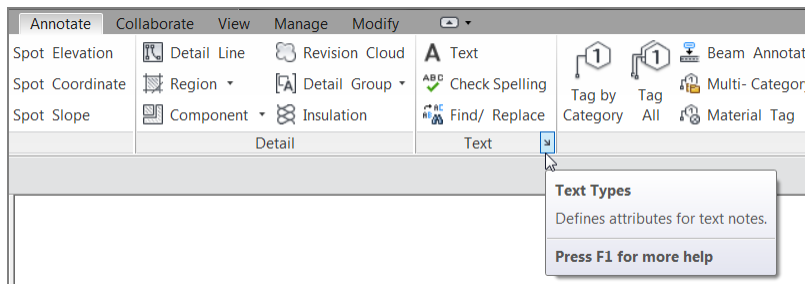

FIGURE 5.51: Accessing the Type Properties
1. On the Text panel of the Annotate tab is a small arrow pointing down and to the right, as shown in Figure 5.51. Click it to open the Type Properties.